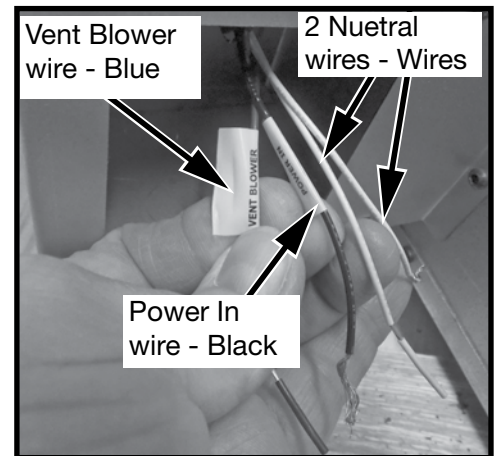
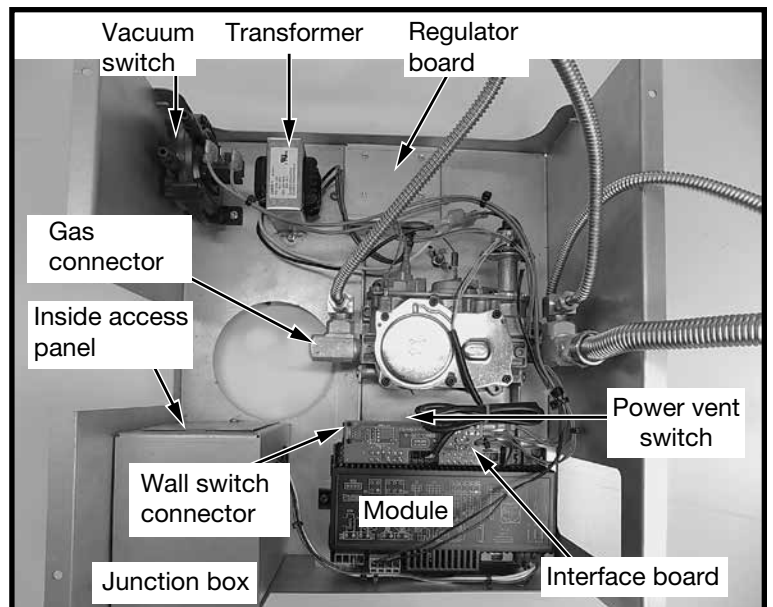
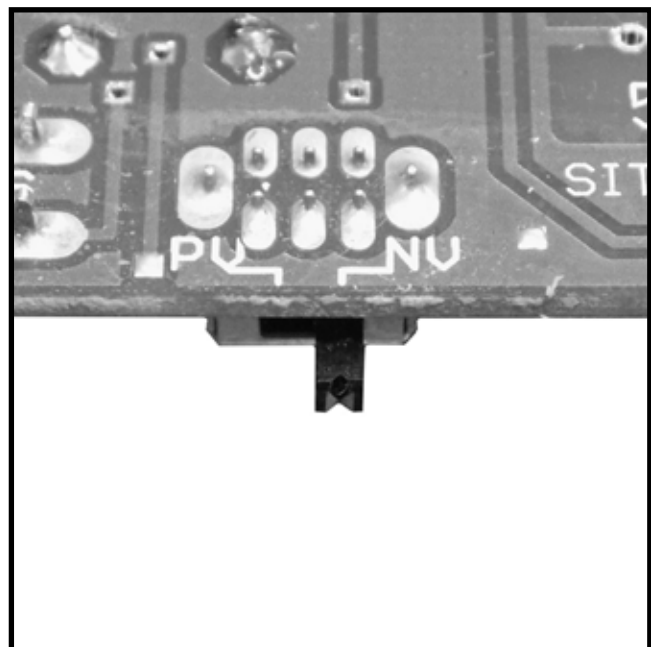

Figure 22: Junction box wiring.
Figure 23: Valve assembly components.
Figure 27: Vent mode selection switch.
4. Connect 110 V. AC electrical supply to the wires installed inside the junction box (Figure 22). The fireplace is rated at 110 volts, 60Hz, 0.25A. The optional power vent kit is rated at 115 volts, 60Hz, 1.8A.
The electrical wires can be accessed from both inside and outside the junction box by removing one of the two small access panels (Figure 22 & Figure 23) .
7. Attach one end of the wall switch control cable to the wall control (Figure 25), and the other end to the interface board (Figure 23).
The NV / PV (Natural Vent / Power Vent) switch (Figure 27) on the interface board (Figure 23) is set according to which type of evacuating vent system is present. If the fireplace is vented without the assistance of a power vent, the switch must be set to “NV”. If using a power vent, “PV” must be selected. Follow the instructions provided with the power vent kit for proper installation.
1. Connect the gas supply to the valve (Figure 23).